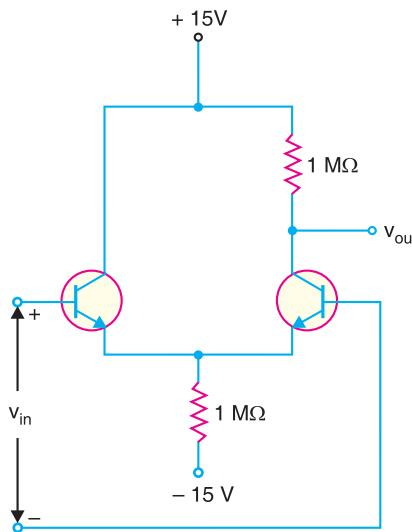

Fig. 25.31
**Example 25.14.** What is  $v_{out}$  in Fig. 25.31 when (i)  $v_{in} = 1\text{mV}$  (ii)  $v_{in} = -1\text{mV}$  ?